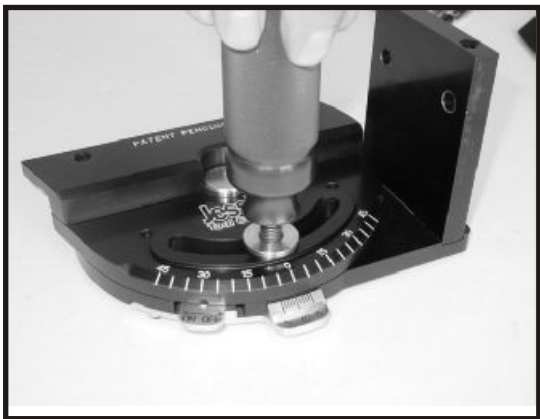

FIG. 2
2. Install the 1" brass washer (from the parts bag) over the stud on the miter gauge knurled handle and thread the handle with the washer into the assembly and lightly tighten (Fig. 2).